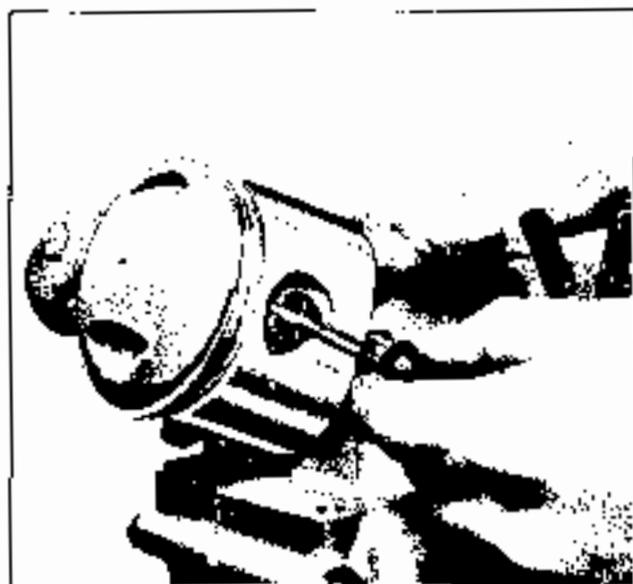

Figure 3-9. Removing Piston Pin Lock Ring
ring expander if necessary. Pry right piston pin lock ring (5) off piston pin using the Piston Lock Ring Tool, Part No. 96780-32A (see Figure 3-95) and screwdriver as shown in Figure 3-9. Right end of piston pin has slots for this purpose. Tap out piston pin (7) and lift off piston (8).